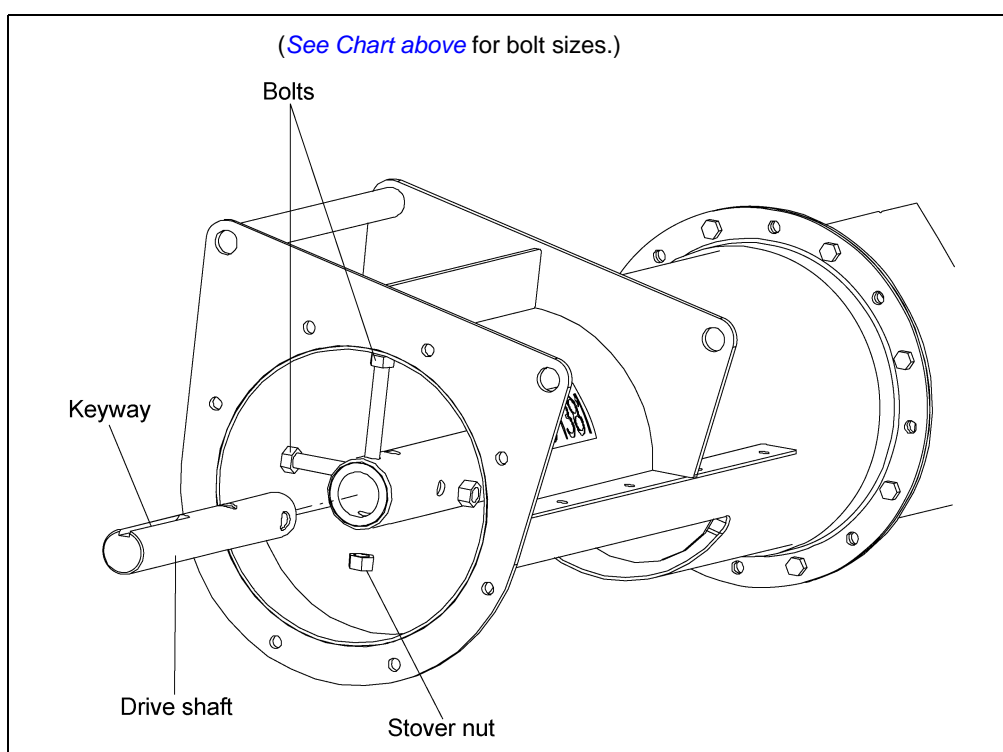

Figure 4A
1. Insert the drive shaft into the opposite end of flight with keyway facing outward. Align the holes in the shaft and secure with grade 8 bolts and stover nuts. (*See Chart below and Figure 4A.*)